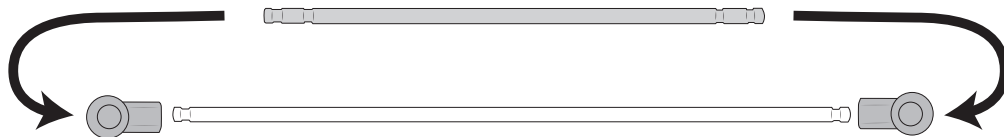

Figure 16
- g. Reinstall the socket ends onto the new link rods (fig. 16).